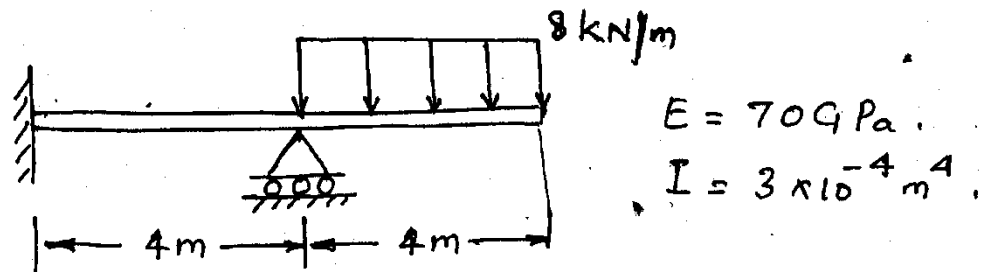

Fig. Q. 5b
4. a) Obtain the stiffness matrix of an arbitrarily oriented truss element in XY plane (05)
- b) Evaluate the stiffness matrix in the global Cartesian coordinate system for a plane stress triangular element $i - j - m$ defined by the coordinates (40, 40), (100, 60) and (70, 100) respectively with all dimensions are in millimeter. Let $E = 200 \text{ GPa}$, $\mu = 0.3$ and $t = 10 \text{ mm}$. (05)
5. a) Discuss the factors to be considered while discretizing the geometry to obtain Finite Element Model (04)
- b) For the beam shown in Fig. Q. 5b, evaluate the unknown displacements and rotations. (06)